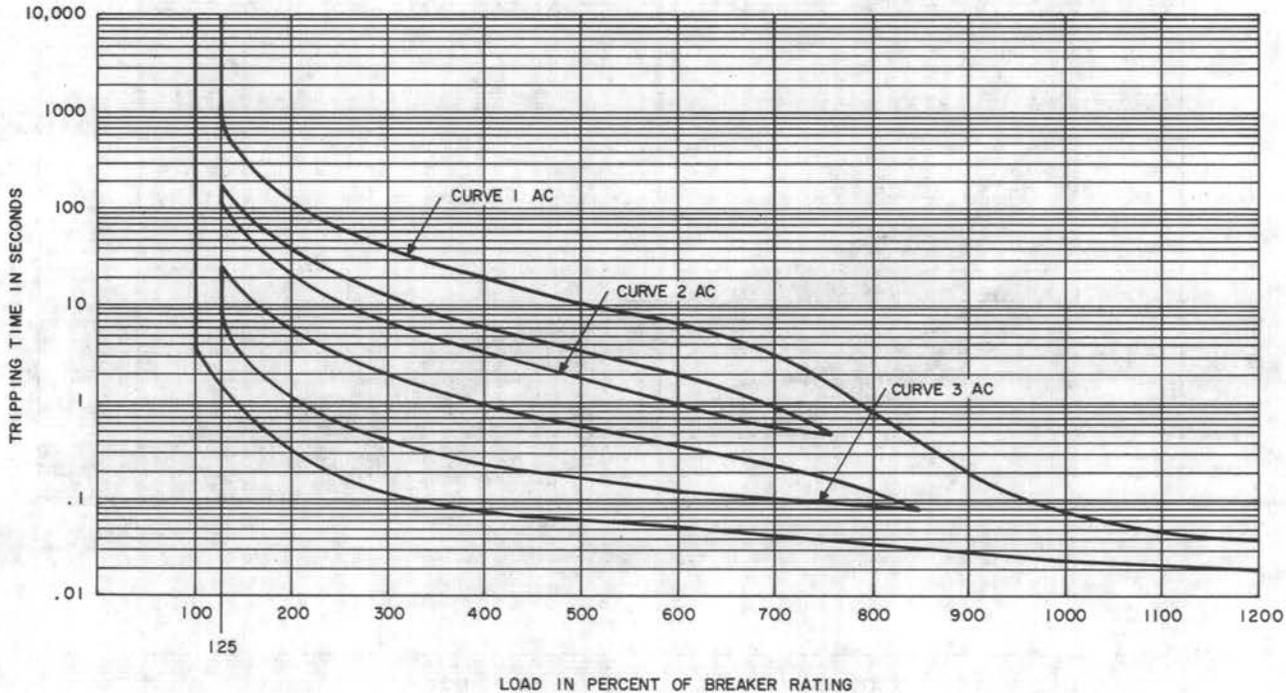

Fig. 8—AC Time-Delay Performance Curves—KS-5786 L1, KS-19943 L10, KS-15815 L40-L42, KS-20684 L205, L210
- Add 1 AC and 2 AC performance curves to Fig. 8